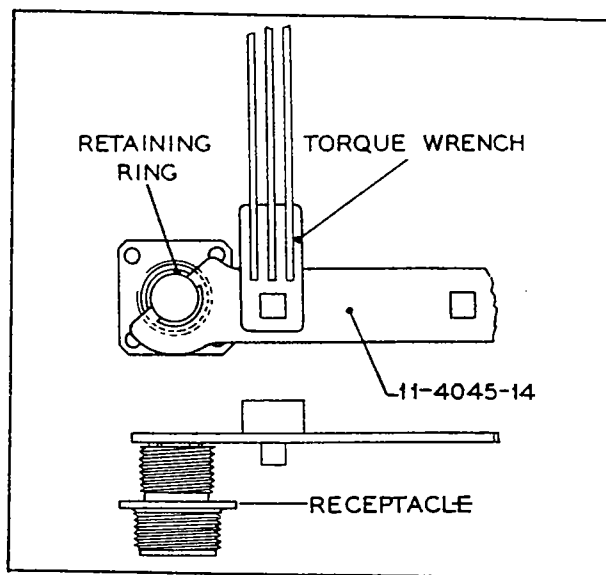

Figure 22
g. Hold plug shell with a mated receptacle shell and tighten the retaining ring with proper spanner wrench (figure 22). A series of spanner wrenches have been designed for this application. The basic tool number is 11-4045. The dash number indicates the tool size for use on the same connector shell size. As an example, the 11-4045-24 spanner wrench should be used to install retaining rings of all size 24 connector assemblies. Use the 11-2934 Torque Wrench or a standard torque wrench handle ( $\frac{1}{4}$  inch drive) with the spanner wrenches. Tighten retaining ring to torque value indicated in Table III.